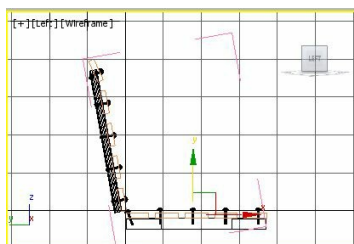

Figure 2-90 *Alignment of right side seat rivets in the Left viewport*
9. Choose the **Select and Move** tool. Now, move the cursor over the vertical axis and then drag the mouse downward to align *right side seat rivets* with *horizontal seat support*, as shown in Figure 2-90.